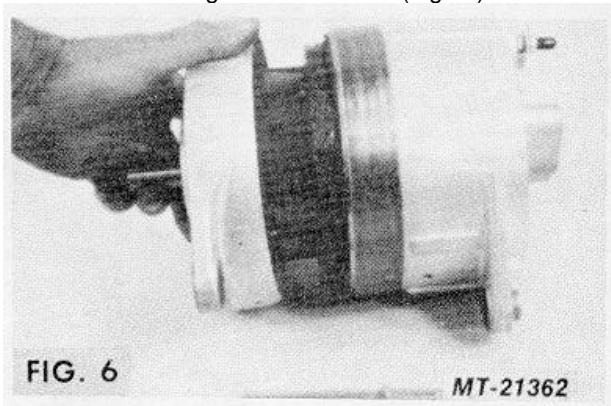

FIG. 6
7. Remove rotor and drive end housing assembly from stator and slip ring end housing assembly. If drive end housing binds on stator, loosen by tapping gently on mounting ear with fibre hammer. Be sure that drive end housing separates from stator and that stator remains attached to slip ring end housing to avoid damage to stator leads (Fig. 6).